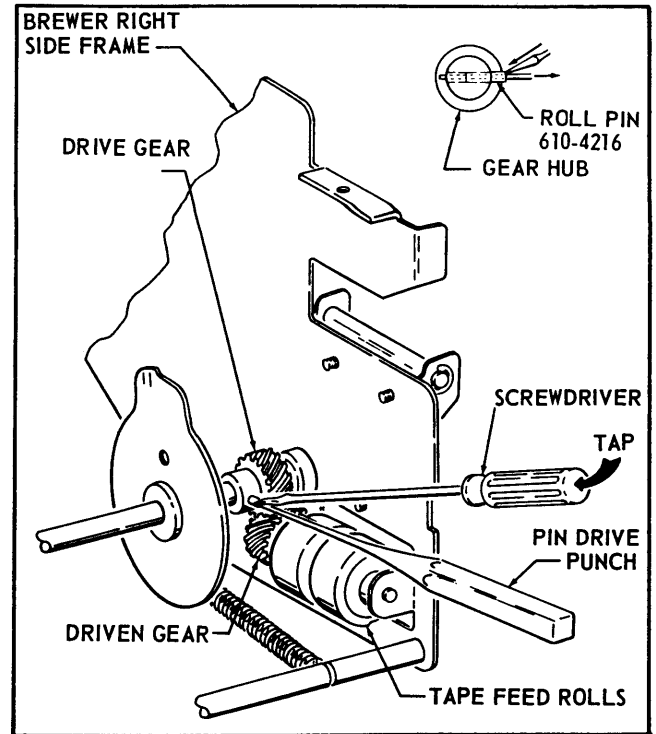

Figure 12.
U. Insert the drive pin punch into the Roll Pin hole in the Gear and Shaft and hold the Roll Pin in place with the drive pin punch. See Figure 12.
V. Place a screwdriver against the Roll Pin and drive the Pin into place. See Figure 12.